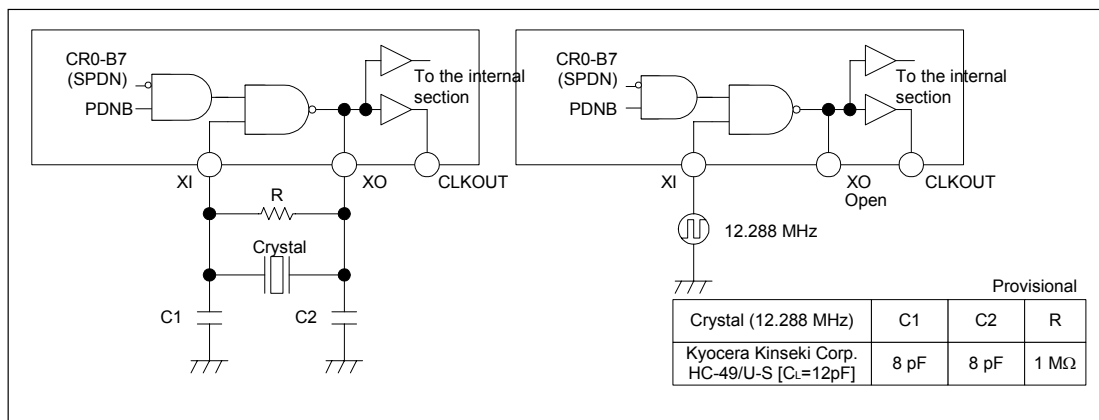

Figure 10 Example of an Oscillation Circuit and Clock Input
These are the master clock input pin (XI) and the crystal connection pins for the master clock (XI and XO). Oscillation stops at power down by PDNB or software power down by SPDN. Oscillation starts after power-down is reset and the clock is supplied to the LSI internal section after oscillation stabilization delay time has elapsed (about 21.3 ms). Figure 10 shows a master clock input example.